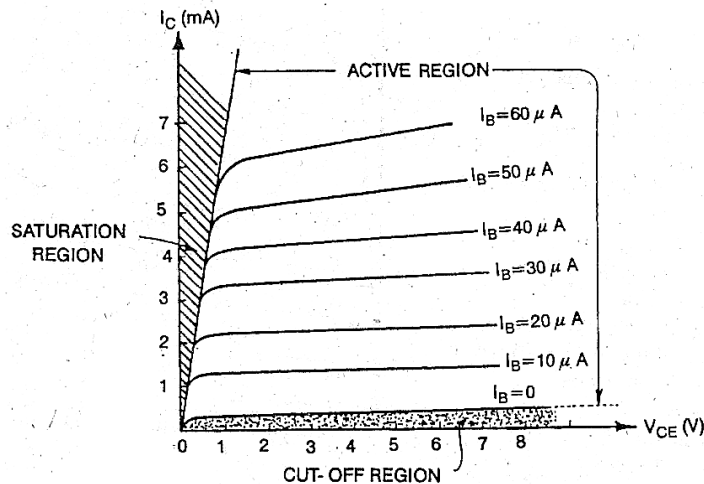

Fig. 59.1
**Q.58 Distinguish between forward active, saturation, cut-off and reverse active operation of a transistor. Marks (4)**
**Q.59 Sketch the CE-configuration transistor output characteristics of a transistor and explain the significance of these curves. Indicate the active, cut-off and saturation regions. Marks (7)**
**Ans: Output Characteristics of a Transistor in CE-Configuration:** In CE configuration, the curve plotted between collector current  $I_C$  and collector-emitter voltage  $V_{CE}$  at constant base current  $I_B$  is called output characteristic, shown in fig. 59.1.